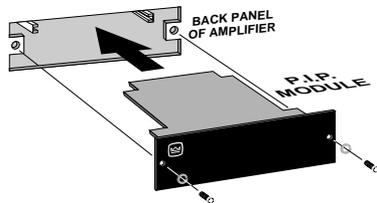

Fig. 2.3 Installation into a Standard *P.I.P.* Amplifier
6. Standard P.I.P. Amplifiers: Align the edges of the *P.I.P.-ATNB* in the *P.I.P.* card rails and firmly push the unit in until it is seated against the mounting bracket (see Figure 2.3).